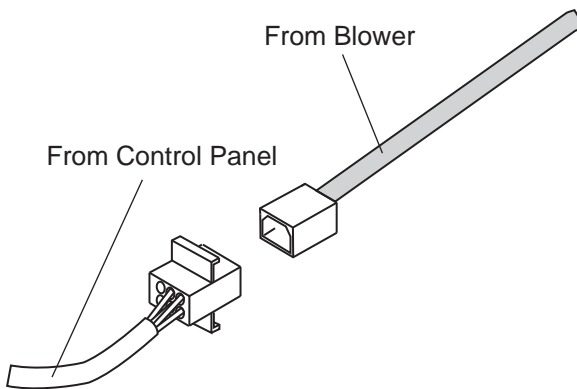

Figure 19: Wiring the Hood with an Integral Blower
3. Connect the blower's Molex plug connector to the connector present inside the hood, as shown in *Figure 19*.
- Lost or missing wire nuts should only be replaced with spring type wire nuts rated for a minimum of two (2) #18 gauge wires and maximum of four (4) #14 gauge wires, UL & CSA rated to 600V and 302°F (150°C.)